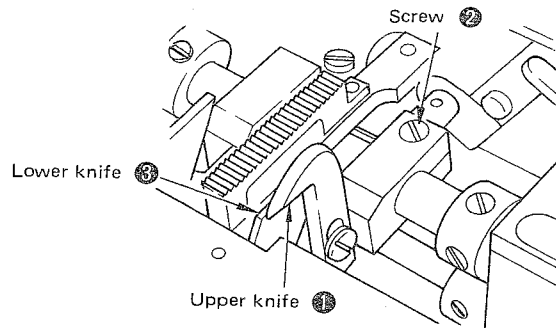

Fig. IV-7-1
- 1) Adjust so that upper knife ① engages with lower knife ③ by 1 mm in its lowest dead point when the lower knife ③ is in its standard position. Loosen screw ② , and adjust the position of the knives. Now adjust the position of upper knife ① while lightly pressing back lower knife ③ . If you do not do this, the lateral position of upper knife ① may change from its correct position. In the case the moving amount of upper knife is set to the standard value of 5 mm, a clearance of 4 mm should be obtained between the top end of upper knife ① and lower knife ③ when the upper knife ① is in the highest position of its stroke. (See Fig. IV-7-1)